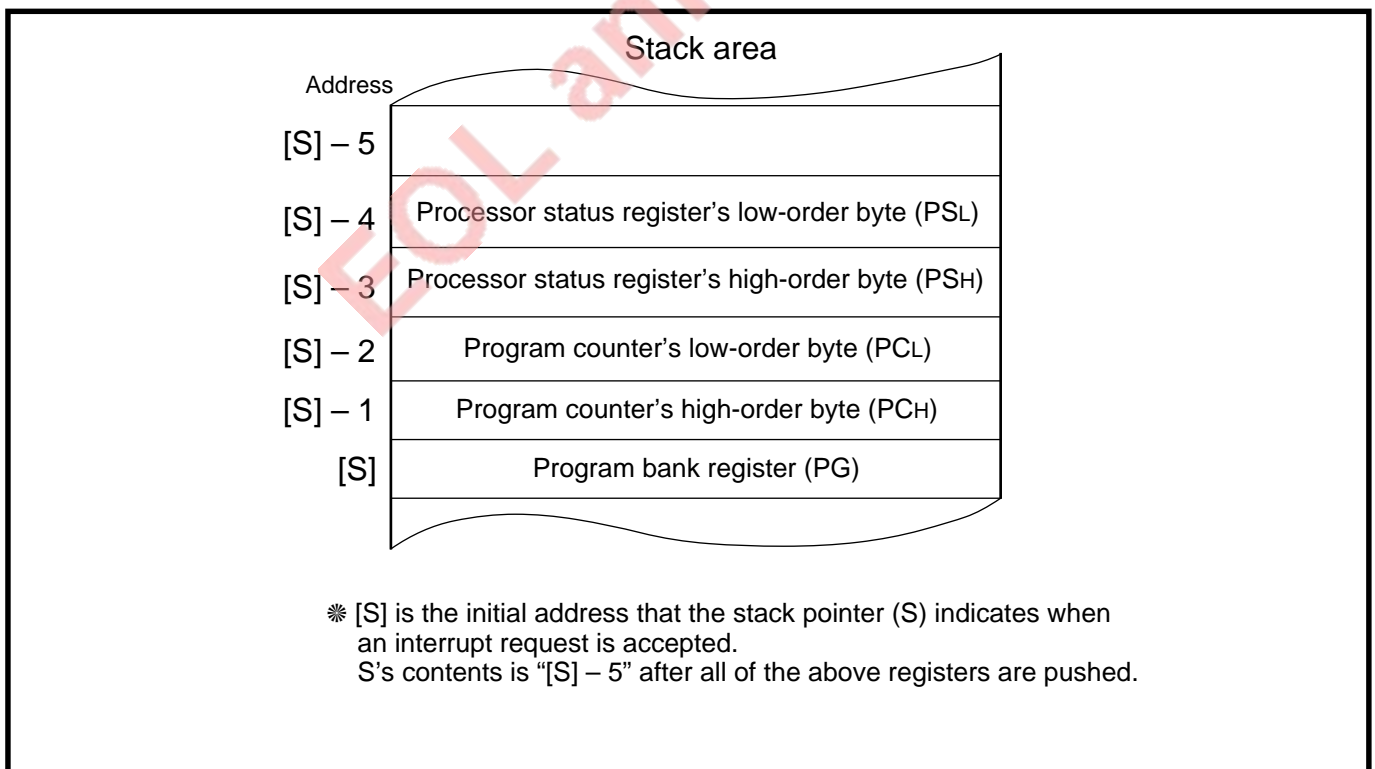

Fig. 2.1.2 Stored registers in stack area
When an interrupt request is accepted, the microcomputer stores the contents of the program bank register (PG) into an address indicated by the contents of S and decrements the contents of S by 1. Then the microcomputer stores the contents of the program counter (PC) and the processor status register (PS). After acceptance of an interrupt request, the contents of S becomes  $[S] - 5$ . ([S] is the initial address that the stack pointer (S) indicates when an interrupt request is accepted.) (Refer to **Figure 2.1.2.**)